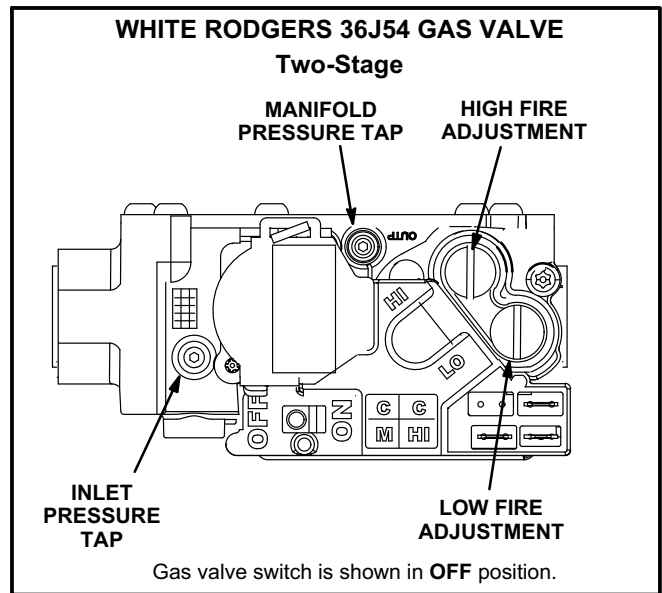

FIGURE 24
Gas Valve Operation (figure 24)
- 5- Move gas valve switch to **OFF**. See figure 24.
- 6- Wait five (5) minutes to clear out any gas. If you then smell gas, **STOP!** Immediately call your gas supplier from a neighbor's phone. Follow the gas supplier's instructions. If you do not smell gas, go to the next step.
- 7- Move gas valve switch to **ON**. See figure 24.